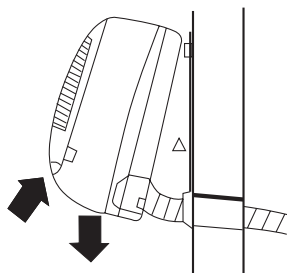

Fig. 9.10 Assembling the indoor unit.
- Tilt the lower part of the indoor unit forwards and insert an auxiliary tool (e.g. a piece of wood) between the mounting plate and the unit (see Figure 9.10) to allow access to the unit connections.